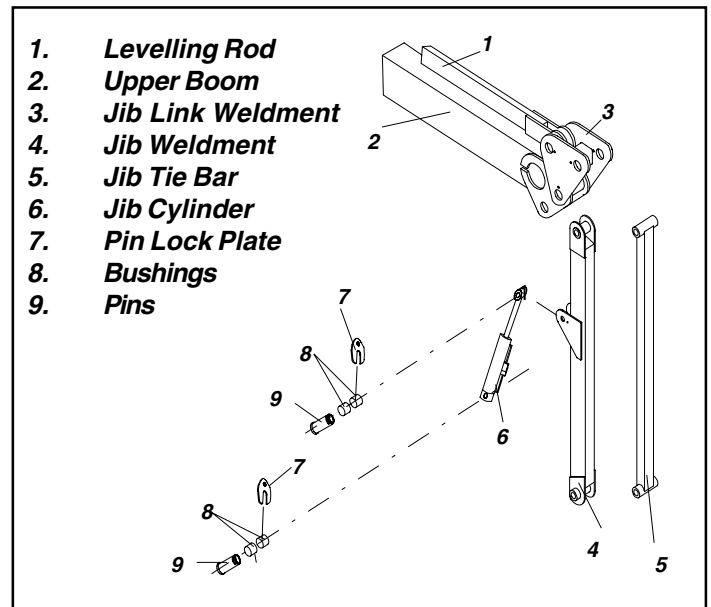

Figure 4-18: Jib Cylinder
4.15 Jib Cylinder (Figure 4-18)